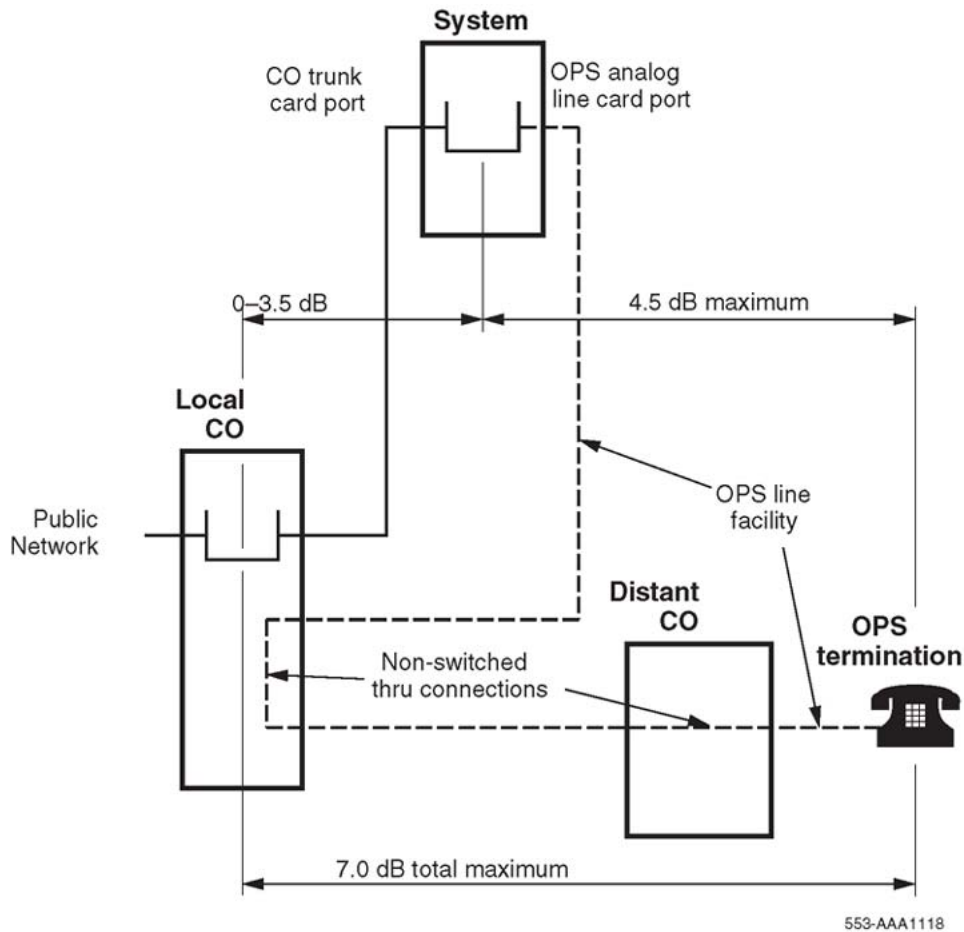

Figure 26: Traditional OPS application configuration
The NT1R20 OPS analog line card is designed primarily to provide an interface for off-premise station lines. An OPS line serves a terminal – usually, but not exclusively, a telephone – remote from the PBX either within the same serving area as the local office, or through a distant office. The line is not switched at these offices; however, depending on the facilities used, the local office serving the OPS station can provide line functions such as battery and ringing. Facilities are generally provided by the local exchange carrier (usually, OPS pairs are in the same cable as the PBX-CO trunks). The traditional OPS scenario configuration is shown in Figure 26: Traditional OPS application configuration on page 136.
Figure 26: Traditional OPS application configuration on page 136. Examples of such applications are:
These factors must be considered when planning applications using the NT1R20 OPS analog line card. They are important when considering configurations other than the traditional OPS application as shown in Figure 26: Traditional OPS application configuration on page 136. The following sections provide basic transmission planning guidelines for various OPS applications.
- Total 1 kHz loss from the local serving CO to the OPS terminal should not exceed 7.0 dB. The total loss in the facility between the PBX and the terminal must not exceed 4.5 dB. See Figure 26: Traditional OPS application configuration on page 136.